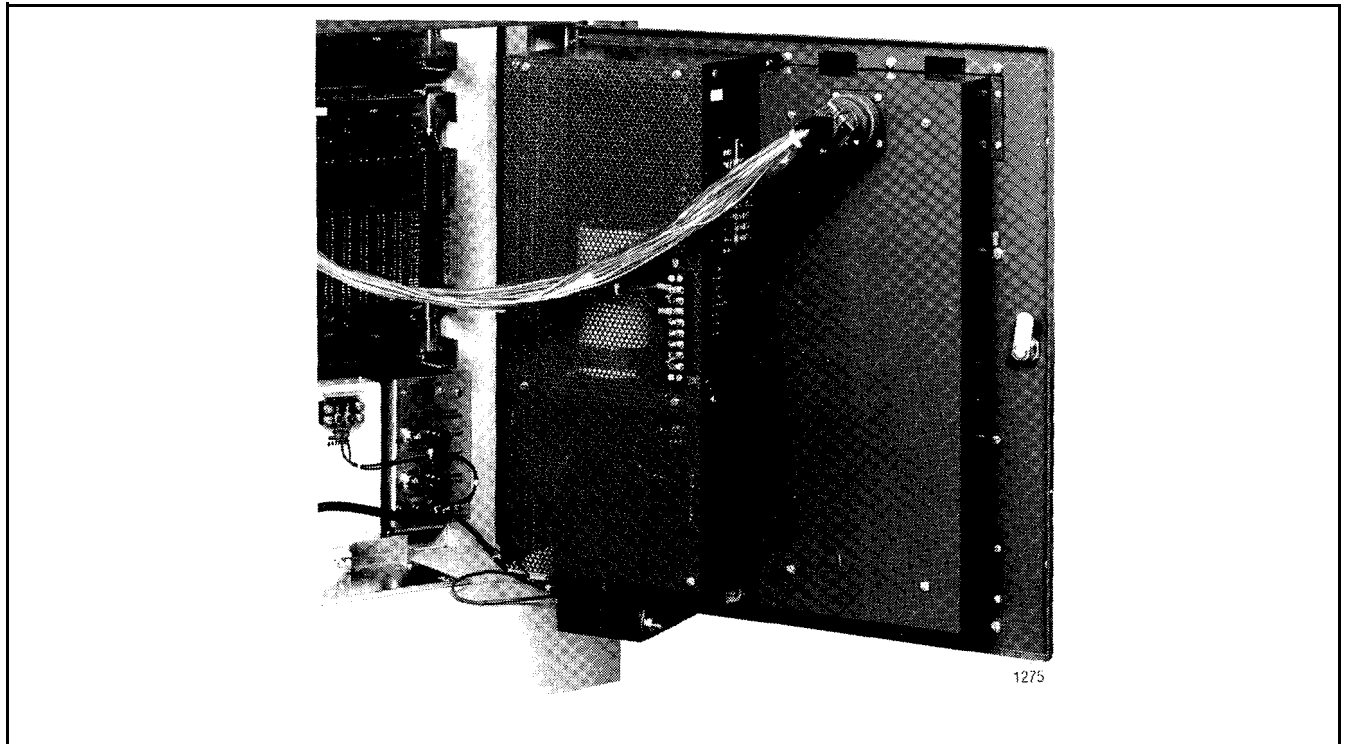

Fig. 2-7 Primary Power Supply
2.11 The system primary power supply (Fig. 2-7), mounted directly on the cabinet back panel, (total weight 70lbs, 32kg) provides all system power from either a 115Vac or a 230Vac, 47Hz to 63Hz commercial supply. The power switch mounted on the outside face of the power supply permits all power to be removed from the system before the equipment cabinet is opened.